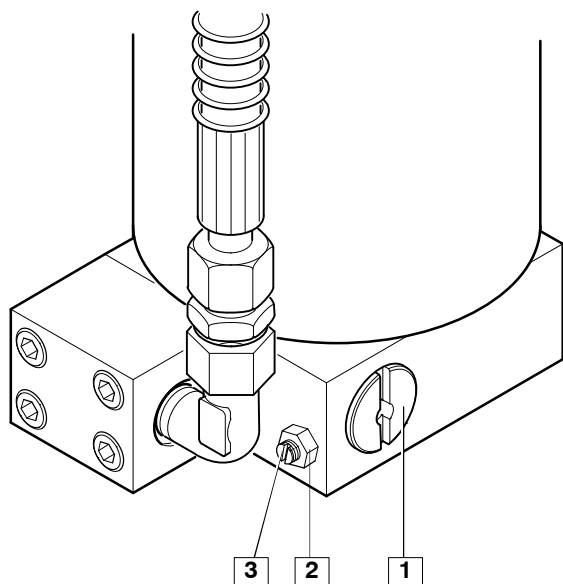

Fig. 39 Pressure maintaining valve, P31
A pressure maintaining valve is integrated in the P31 filter base (Fig. 39).
The pressure maintaining valve (Fig. 39) is adjusted at the factory to the required pressure and normally does not require regular maintenance or readjustment. In case of readjustment becoming necessary, loosen jam nut (2) and set screw (3). Adjust screw (1) to the required pressure using a suitable screw-driver.